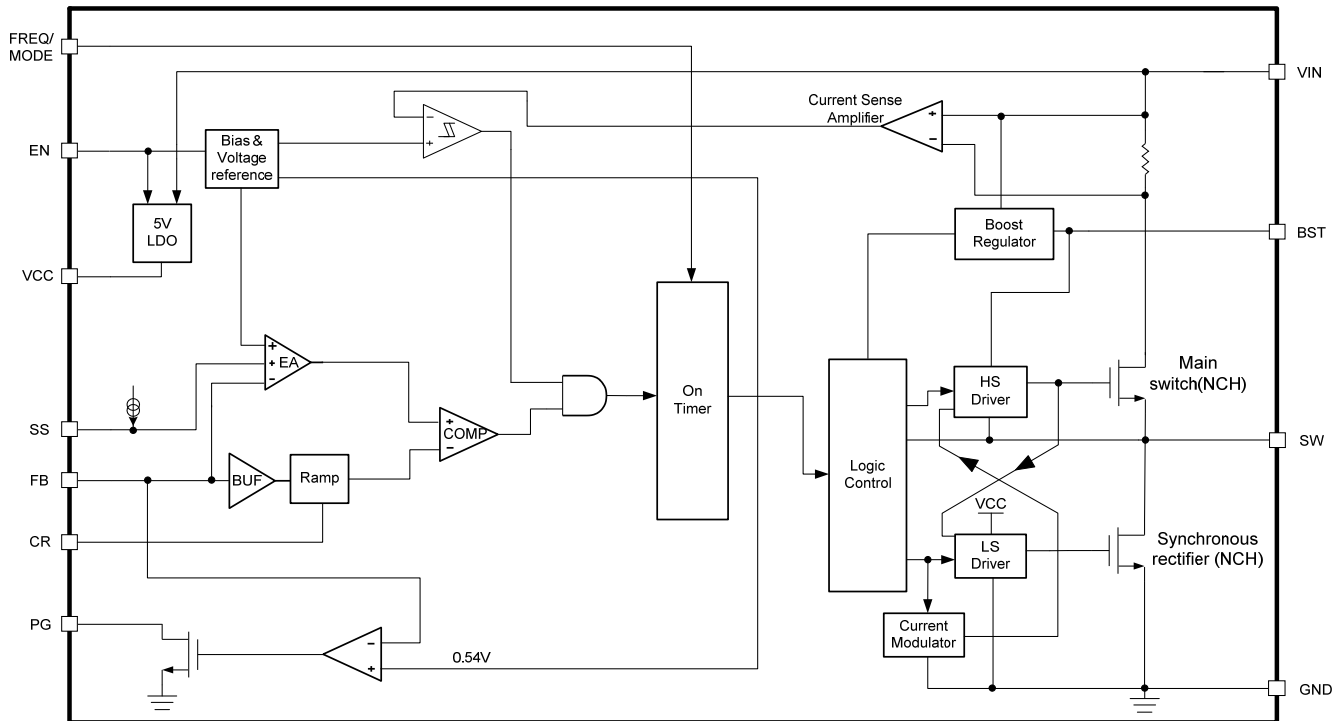

Figure 1—Functional Block Diagram
MP2316 has cycle-by-cycle over-current limit control. During HS-FET ON state, the inductor current is monitored. When the sensed inductor current hits the peak current limit, the HS limit comparator (shown in Figure 1) is triggered, the device enters over-current protection mode immediately, turns off HS-FET and turns on LS-FET. Meanwhile, the output voltage drops until V_{FB} is below the under-voltage (UV) threshold—typically 50% below the reference. Once UV is triggered, the MP2316 enters hiccup mode to periodically restart the part.